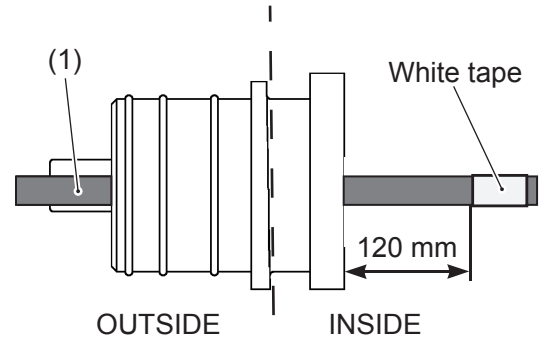

Fig. 6
10. For 36623-98LB0, place the grommet 120 mm from the front edge of the white tape as shown in Fig. 6.